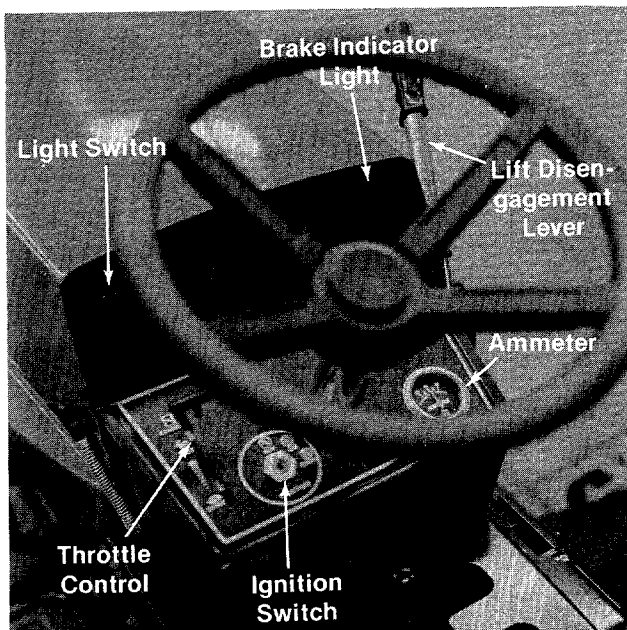

FIGURE 14.
- a. Throttle Control.** The throttle control is used to regulate the engine speed and choke the engine. The engine should be operated from  $\frac{3}{4}$  to full throttle when operating the cutting deck or snow thrower (optional). See figure 14.
- b. Gear Shift Lever.** The gear shift lever is used to shift into one of three Forward Gears, "NEUTRAL" or "REVERSE." See figure 14.
- c. Lift and Disengagement Lever.** It is used to raise the cutting deck. Pulling it all the way back and locking it disengages the blades. The engine will not start unless the lift and disengagement lever is in the disengaged position. See figure 14.
- d. Ignition Switch.** See figure 14. Turn the key to the "START" position to start the engine. When the engine is running, let the key return to the "ON" position. To stop the engine, turn the key to the left to the "OFF" position and remove it to prevent accidental starting.
- e. Light Switch.** Push the light switch to turn on the lights. The lights will only operate when the engine is running. See figure 14.
- f. Brake Indicator Light.** The brake indicator light is located on the dash panel. Whenever the starter key is on and the brake pedal is depressed, it will illuminate. See figure 14.
- g. Ammeter.** The ammeter registers the rate of battery charge or discharge. The ammeter should register on the plus side (+) when the engine is running in the fast position until the battery is completely charged. With a fully charged battery or with the engine idling, the ammeter will not show a charge. See figure 14.
3. Place the lift and disengagement lever in the **DISENGAGED** position. See figure 14.
4. Set the throttle control in the **CHOKE** position. See figure 14.
5. Turn the ignition key to the "START" position. When the engine is running, let the key return to the "ON" position. See figure 14.